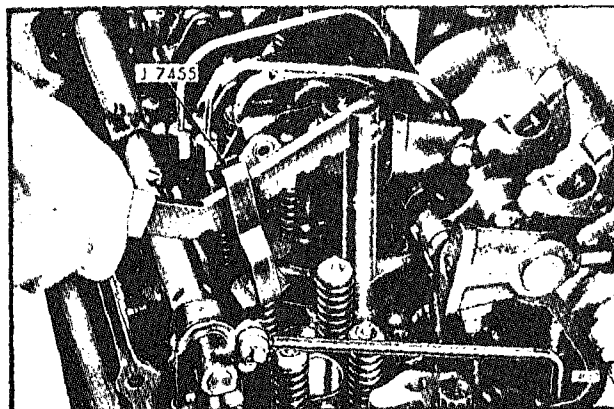

Fig. 2 - Removing Valve Spring
6. Thread the spring compressor tool into one of the rocker arm support bolt holes (Fig. 2). Then compress the spring and remove the two-piece valve lock.